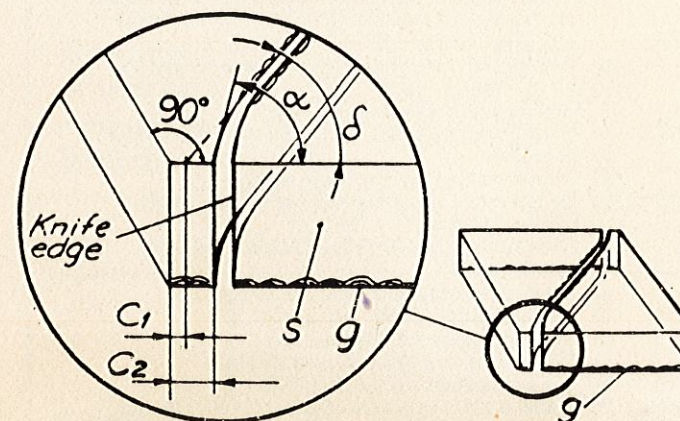

Fig. 2
- The score line is now directed towards corner A. As mentioned above, one usually prefers to form the edge to the right of corner A as shown in fig. 2, by moving the corner to the left so that the score line hits the edge of the square a small distance "c1" from the corner, see fig. 2 or 6. The actual fracture meets strip side (s) a distance "c2" from the corner which is larger than "c1". By keeping "y" and "c1", see figs. 5 and 6, within certain limits, "c2" below 0.5 mm which means that "c1" should be less than that.
16. Loosen locking screw (24) and turn dial (25) counterclockwise five scale divisions. If "C2" is too large, turn dial (25) clockwise. Tighten screw (24).
NOTE: Distance "y" will be longer compared with "y" on 45° knives. If the edges become misshaped, it is recommended to reduce the scoring pressure and/or  $c_2$ , see fig. 2.